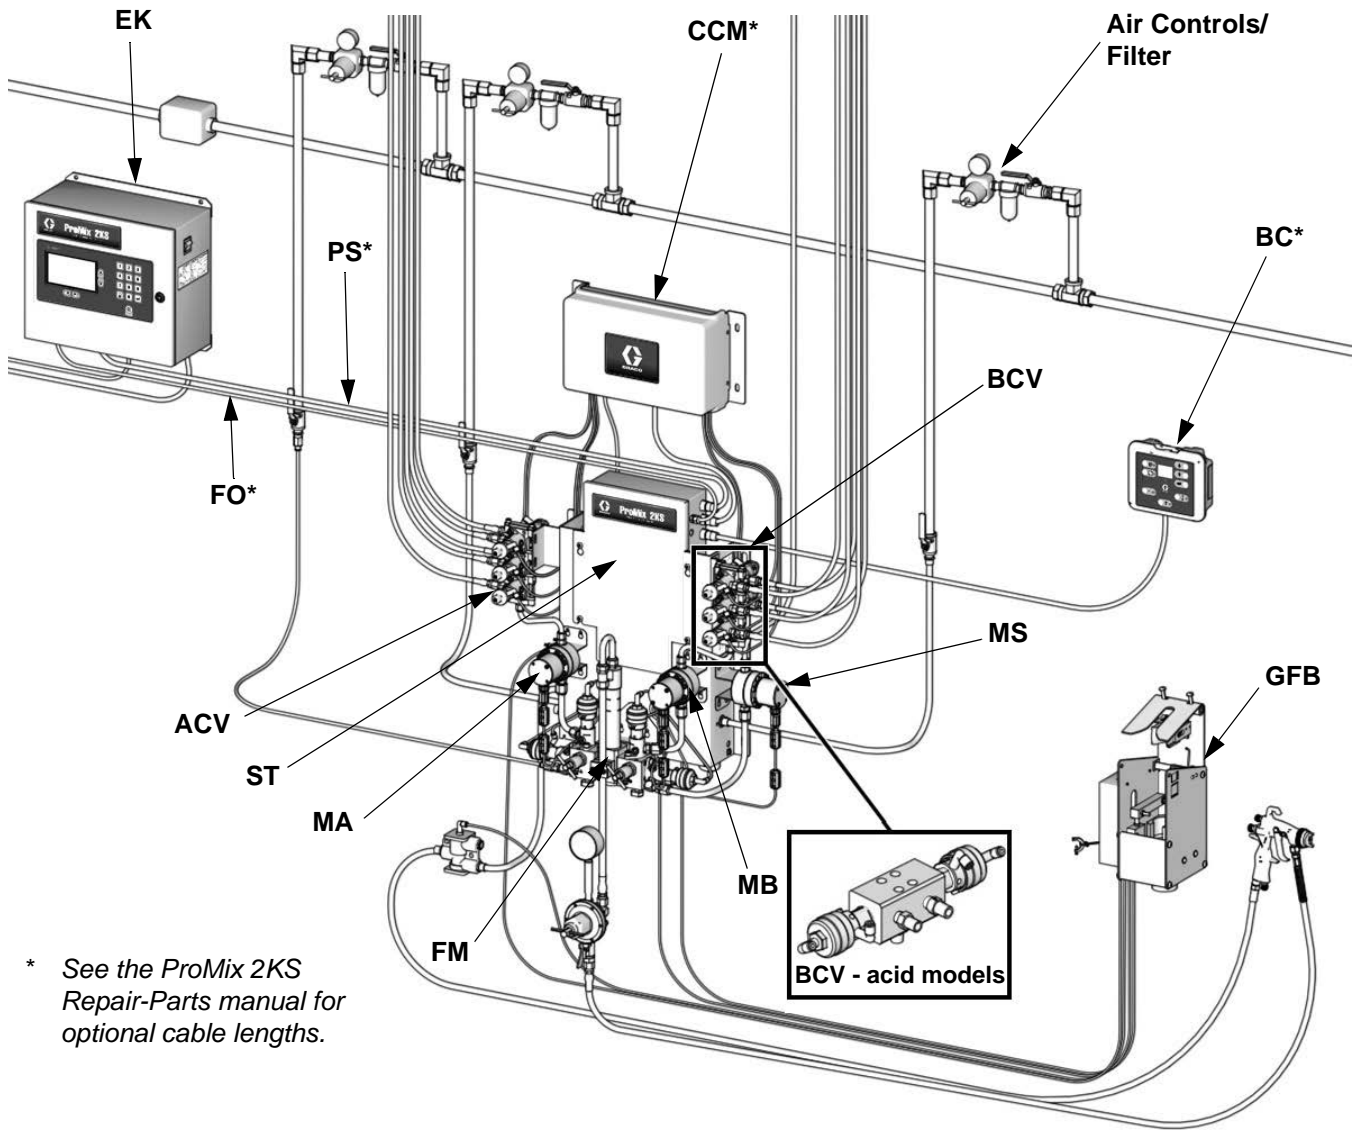

FIG. 2. Manual System, shown with G3000 Meters, Color/Catalyst Change, One Gun Flush Box, and Accessory Solvent Flow Meter
- FIG. 2, page 12, shows the basic components of a manual system. Contact your Graco distributor for actual system designs.
- **Air line filter:** a 10 micron or better air filter is recommended to filter oil and water out of the air supply and help avoid paint contamination and clogged solenoids. See FIG. 2.